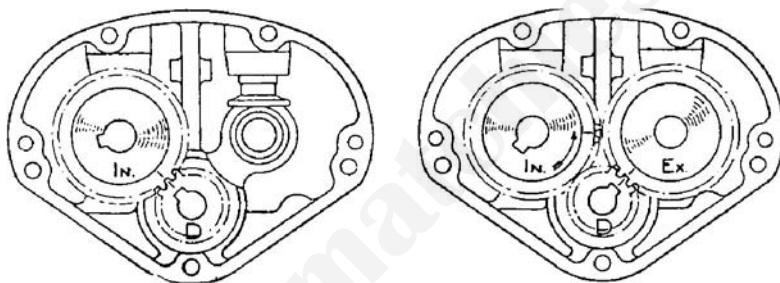

FIG. 58. HOW TO ALIGN THE TIMING GEAR MARKS (1945-9)
- (1) Turn the engine slowly until the line mark on the small engine pinion (shown at (D) in Fig. 58) is in line with the centre of the bush for the inlet camshaft. The bush concerned is the rear one.
- (2) Fit the inlet camshaft so that the line mark on the camwheel registers with the line mark on the small engine pinion (D) as shown in the lefthand illustration.
- (3) Turn the engine slowly forward until the line mark on the small engine pinion (D) is in line with the centre of the bush for the exhaust camshaft (the front bush).
- (4) Fit the exhaust camshaft so that the line mark on the camwheel registers with the line mark on the engine pinion as shown in the right-hand illustration.